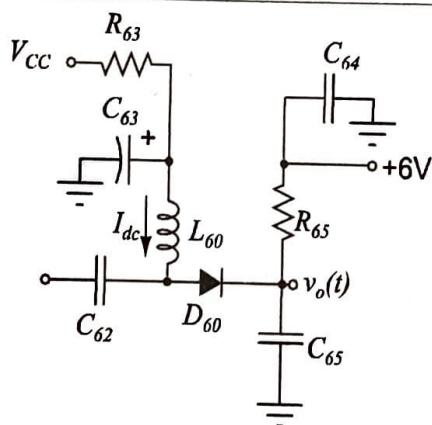

Figure 1: TRC-11 envelope detector circuit.
1. The envelope detector circuit of TRC-11 is given in Fig. 1. It serves to recover the AM modulation signal present on the RF signal. It does so by rectifying the positive side of the AM modulated signal. A low-pass circuit composed of C_{65} and R_{65} gets rid of the RF signal frequency.
1. A PIN diode acts like an RF resistance whose value is determined by the DC current flowing through it. It is inserted between the first and second IF amplifiers when the jumper JP70 is shorted. If the DC current through it increases, its resistance reduces and hence attenuates the signal going to the second IF amplifier as shown in Fig. 1. Refer to the datasheet of the PIN diode on page 399. Find the reverse breakdown voltage, V_R , and the series RF resistance, R_S , and the forward voltage, V_F of the PIN diode when 1 mA DC flows through it.